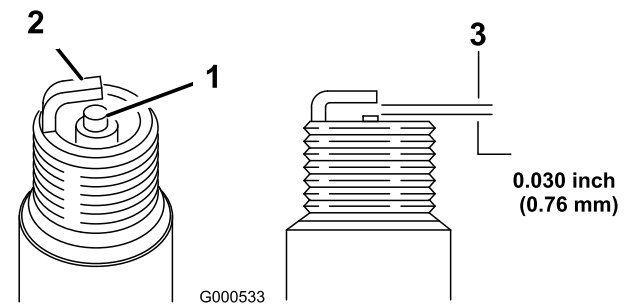

Figure 30
5. Set the gap on the plug to 0.030 in. (0.76 mm) (Figure 30).